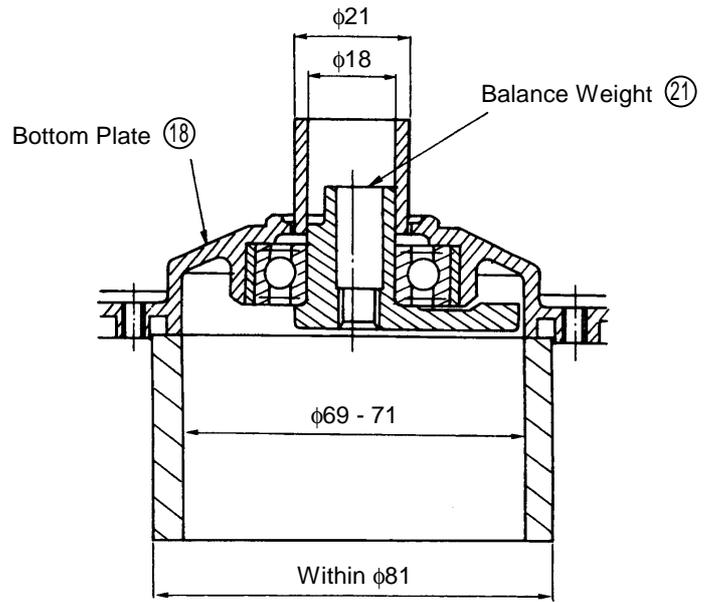

Fig. 7
- (5) Remove the Balance Weight (21):
- A. Following the procedures described in Items A to F in Paragraph (1) (Disassembly of the Armature) above, remove the Bottom Plate (18).
- B. As illustrated in Fig. 7, support the Bottom Plate (18) with a tubular jig (inner dia. $\phi 69 - \phi 71$ mm, outer dia. $\phi 81$ mm or less), and place a sleeve (inner dia. $\phi 18$ mm, outer dia. $\phi 21$ mm) on the Felt (19) mounted above the 6203DDCM Ball Bearing (20). Then press down on the sleeve with a hand press to remove the Balance Weight (21) together with the 6203DDCM Ball Bearing (20) and the Felt (19).